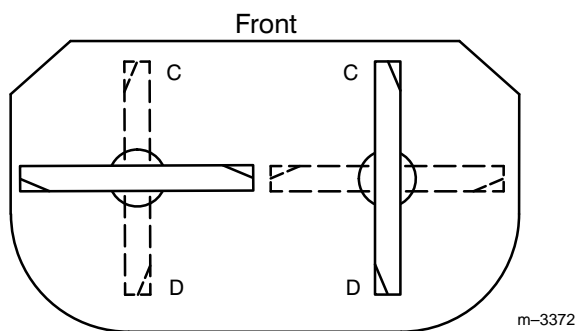
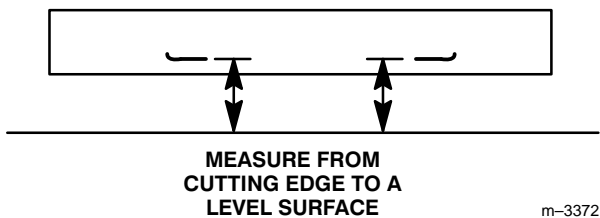

Figure 26
Figure 27
2. Position one blade front-to-rear (Fig. 26). Measure at "C" and "D" locations (Fig. 26) from a level surface to the cutting edge of the blade tips (Fig. 27).